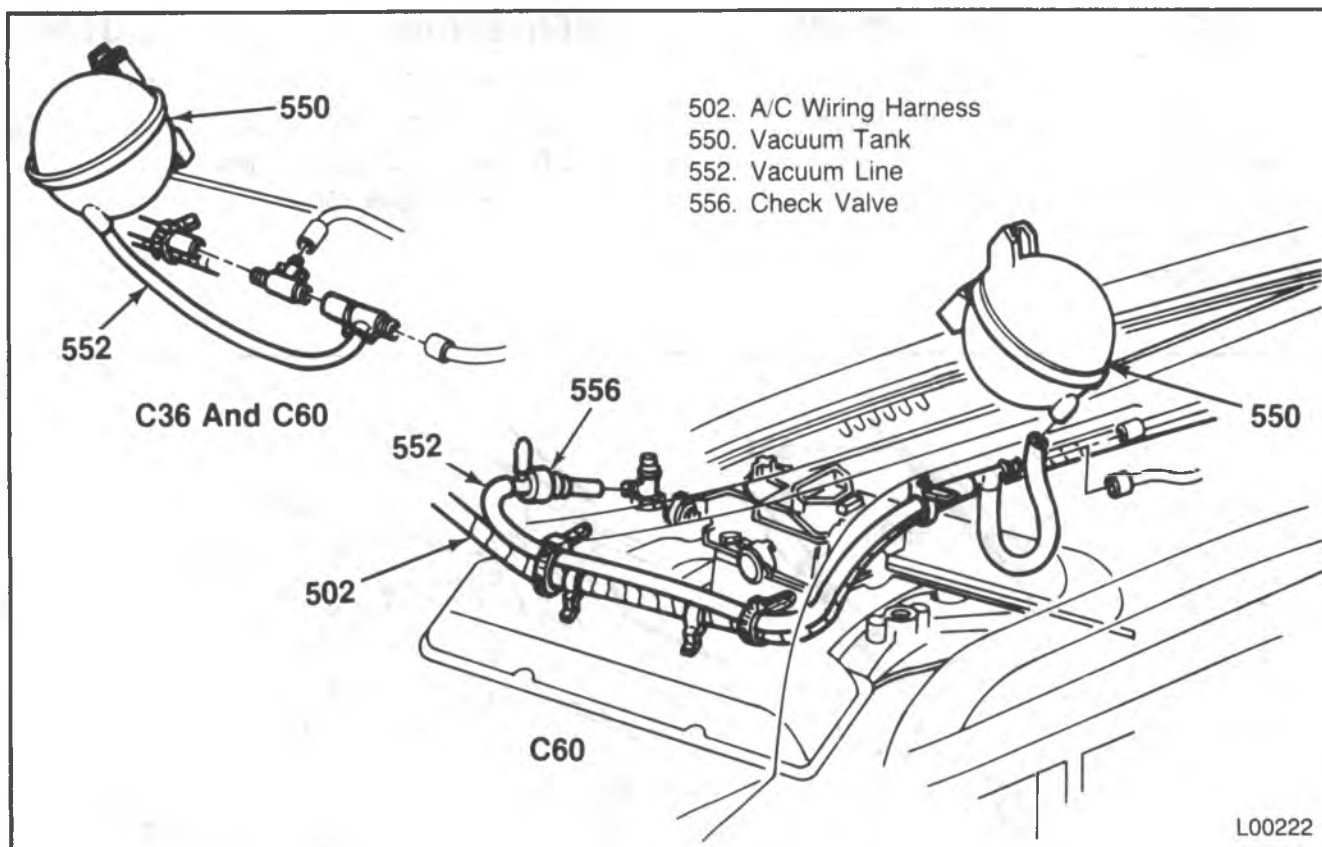

Figure 70 — Vacuum Tank Assembly — 5.0 and 5.7L Engine
2. 5.0L and 5.7L Engine (figure 70).